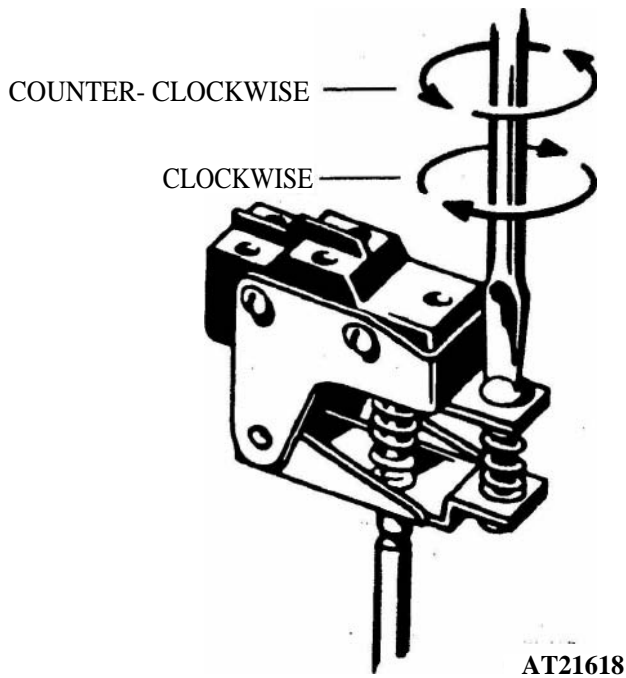

Figure 3-245. Adjusting flame micro switch.
(8) Close shutoff valve on graduated beaker and open shutoff valve on fuel container.
(9) Record operating amperage as indicated on ammeter. Operating amperage should not exceed 5.5 amperes.
(10) Position START-OFF-RUN switch to OFF. Record purge time which is the time lapsed from positioning switch in OFF position until the lamp on the control box goes out. Purge time should not exceed 4 minutes.
(11) Start the heater and partially restrict the fresh air inlet with a piece of cardboard or sheet metal. The limit switch should actuate and shut-down the heater in less than 5 minutes.
(12) Permit heater to cool and restart heater. Make final adjustment of flame switch by turning adjusting screw clockwise until motor stops, then give screw an additional 1/2 turn (fig 3-245).